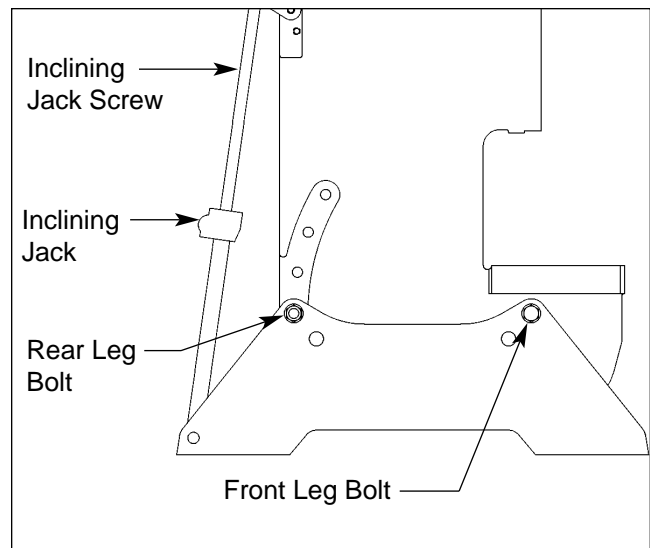

Figure 7C. Inclining the press.
2. Loosen the front leg bolts. (See Figure 7C.) Loosen the bolts only enough to allow for movement without binding. **Do not remove the cotter pins that retain the nuts on the front leg bolts.**